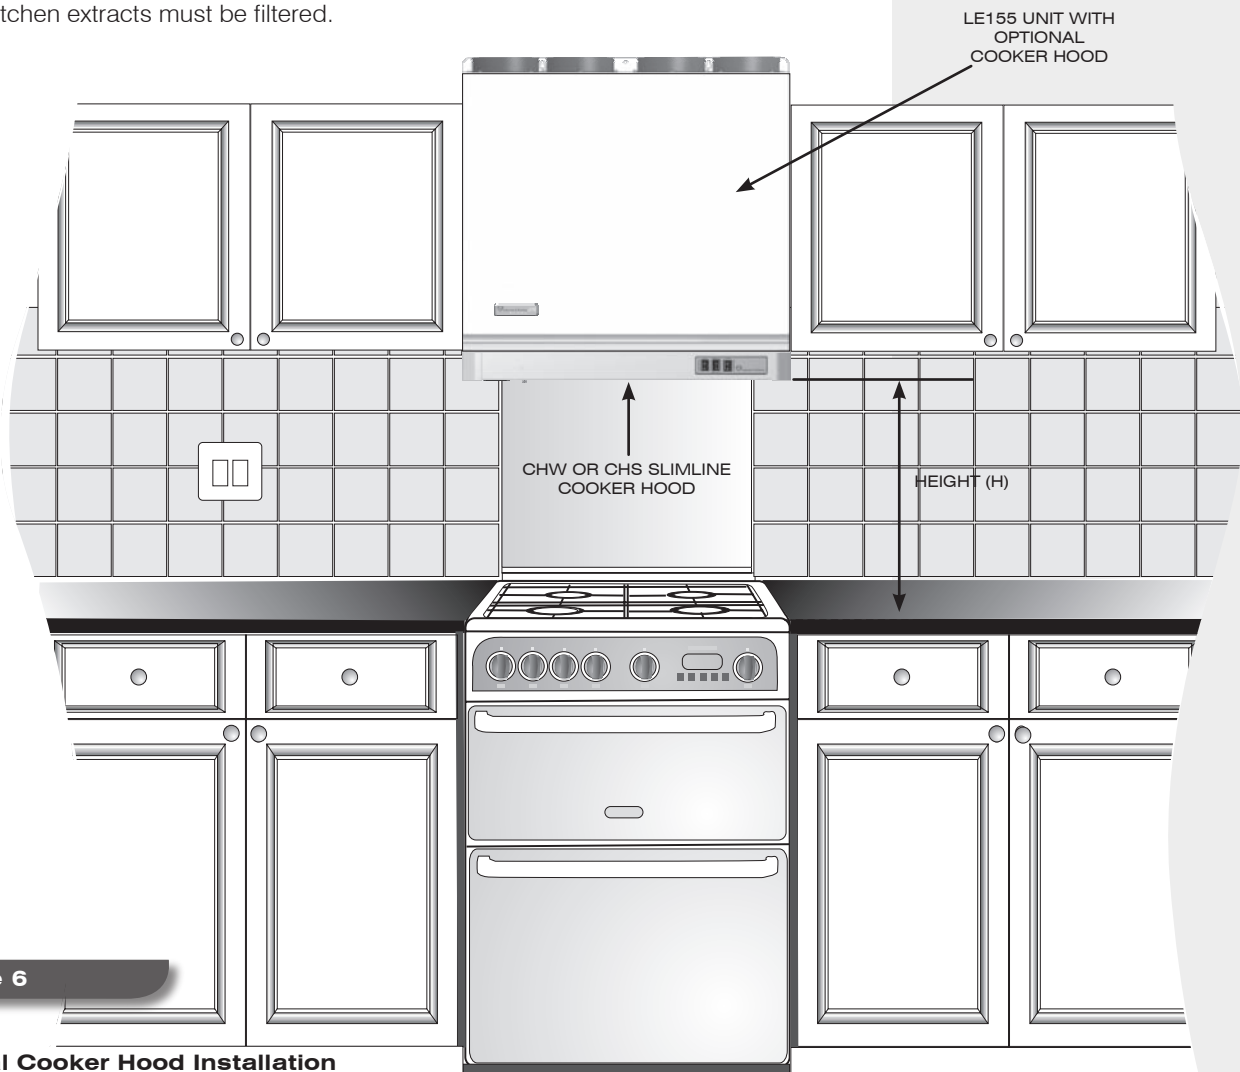

Figure 6
NOTE: Installation height is subject to local regulations, but the height (H) of a cooker canopy must not be less than 600mm from the top of an ELECTRIC cooker, or less than 700mm from the top of a GAS cooker (refer to Figure 6).
- 5.2.1 Referring to Paragraph 4.1.1 and Figure 6, determine the height (H) of the cooker hood from the cooker top. Mark the base datum line for the Heat Recovery unit at H + 50 mm.